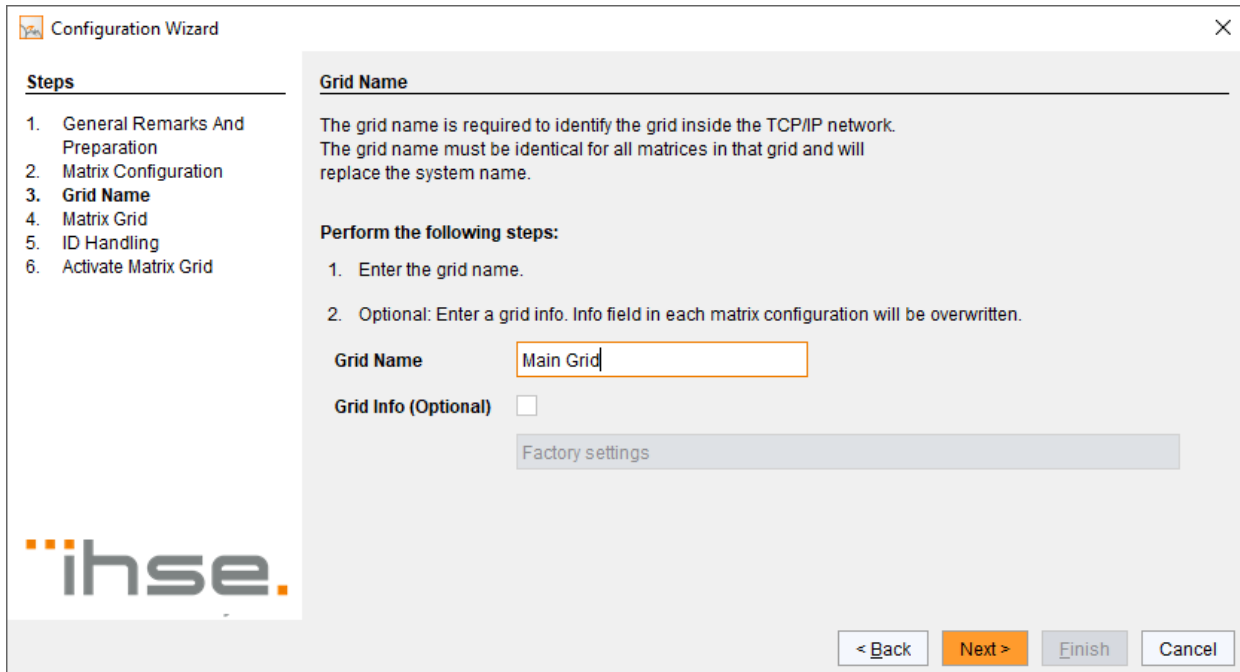

Fig. 144 Menu **Matrix Grid - Configuration Wizard - Grid Name**
4. In step 3 **Grid Name** (see Fig. 144 on page 159) you can change name and info field of the grid.